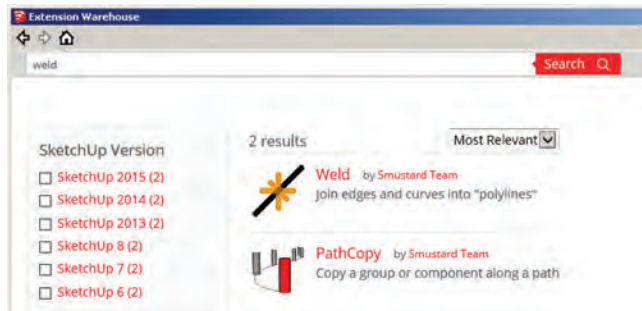

Fig. 5-6: Extension Warehouse search results for Weld
5. The search results will show Weld and PathCopy as the top two extensions (Fig. 5-6). (PathCopy is reviewed in Chapter 6.)